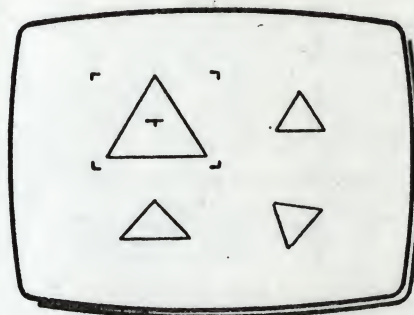

Fig 1
- 5 When you arrive at a library unit you wish to remove, press and release T to erase it, as in Fig 1.